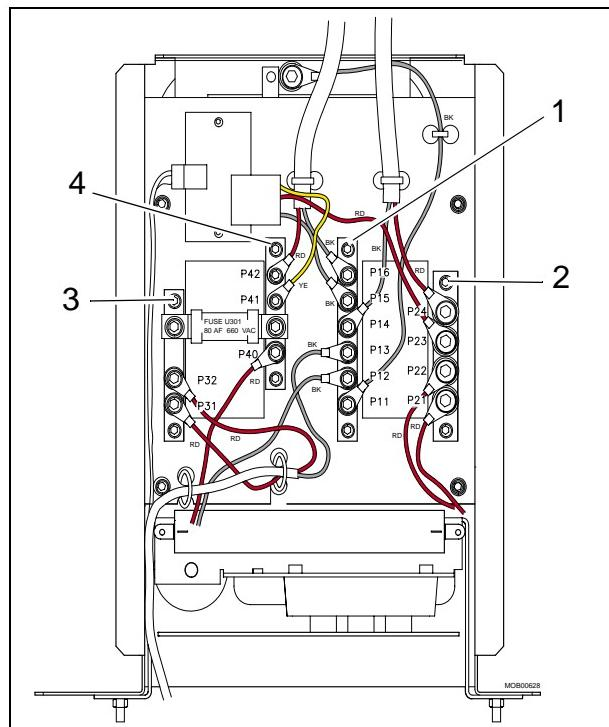

Fig. 4
- Pull out power conversion unit (Fig. 4).
- Measure that there is no battery voltage (0V) between contact bar P1 and P2 (pos. 1 and pos. 2 / Fig. 4).
- Measure that the capacitor voltage between contact bar P1 and P3 (pos. 1 and pos. 3 / Fig. 4) is < 2 V.
- Measure that the capacitor voltage between contact bar P1 and P4 (pos. 1 and pos. 4 / Fig. 4) is < 2 V.
- Remove the necessary cable ties and disconnect P14/P24, P16/P42 and P11/P40 (see Fig. 4).